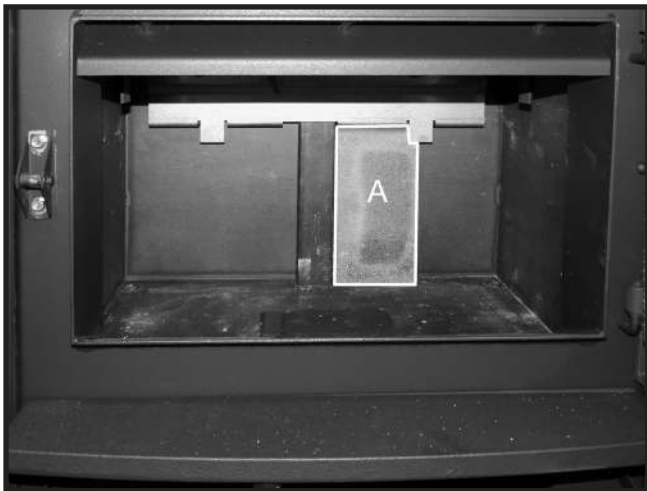

Figure 18: Installing the 1st of the rear wall firebricks.
1. Stand one "A" firebrick vertically behind the tab located on the brick rail. Slide the firebrick toward the center of the rear wall (Figure 18).